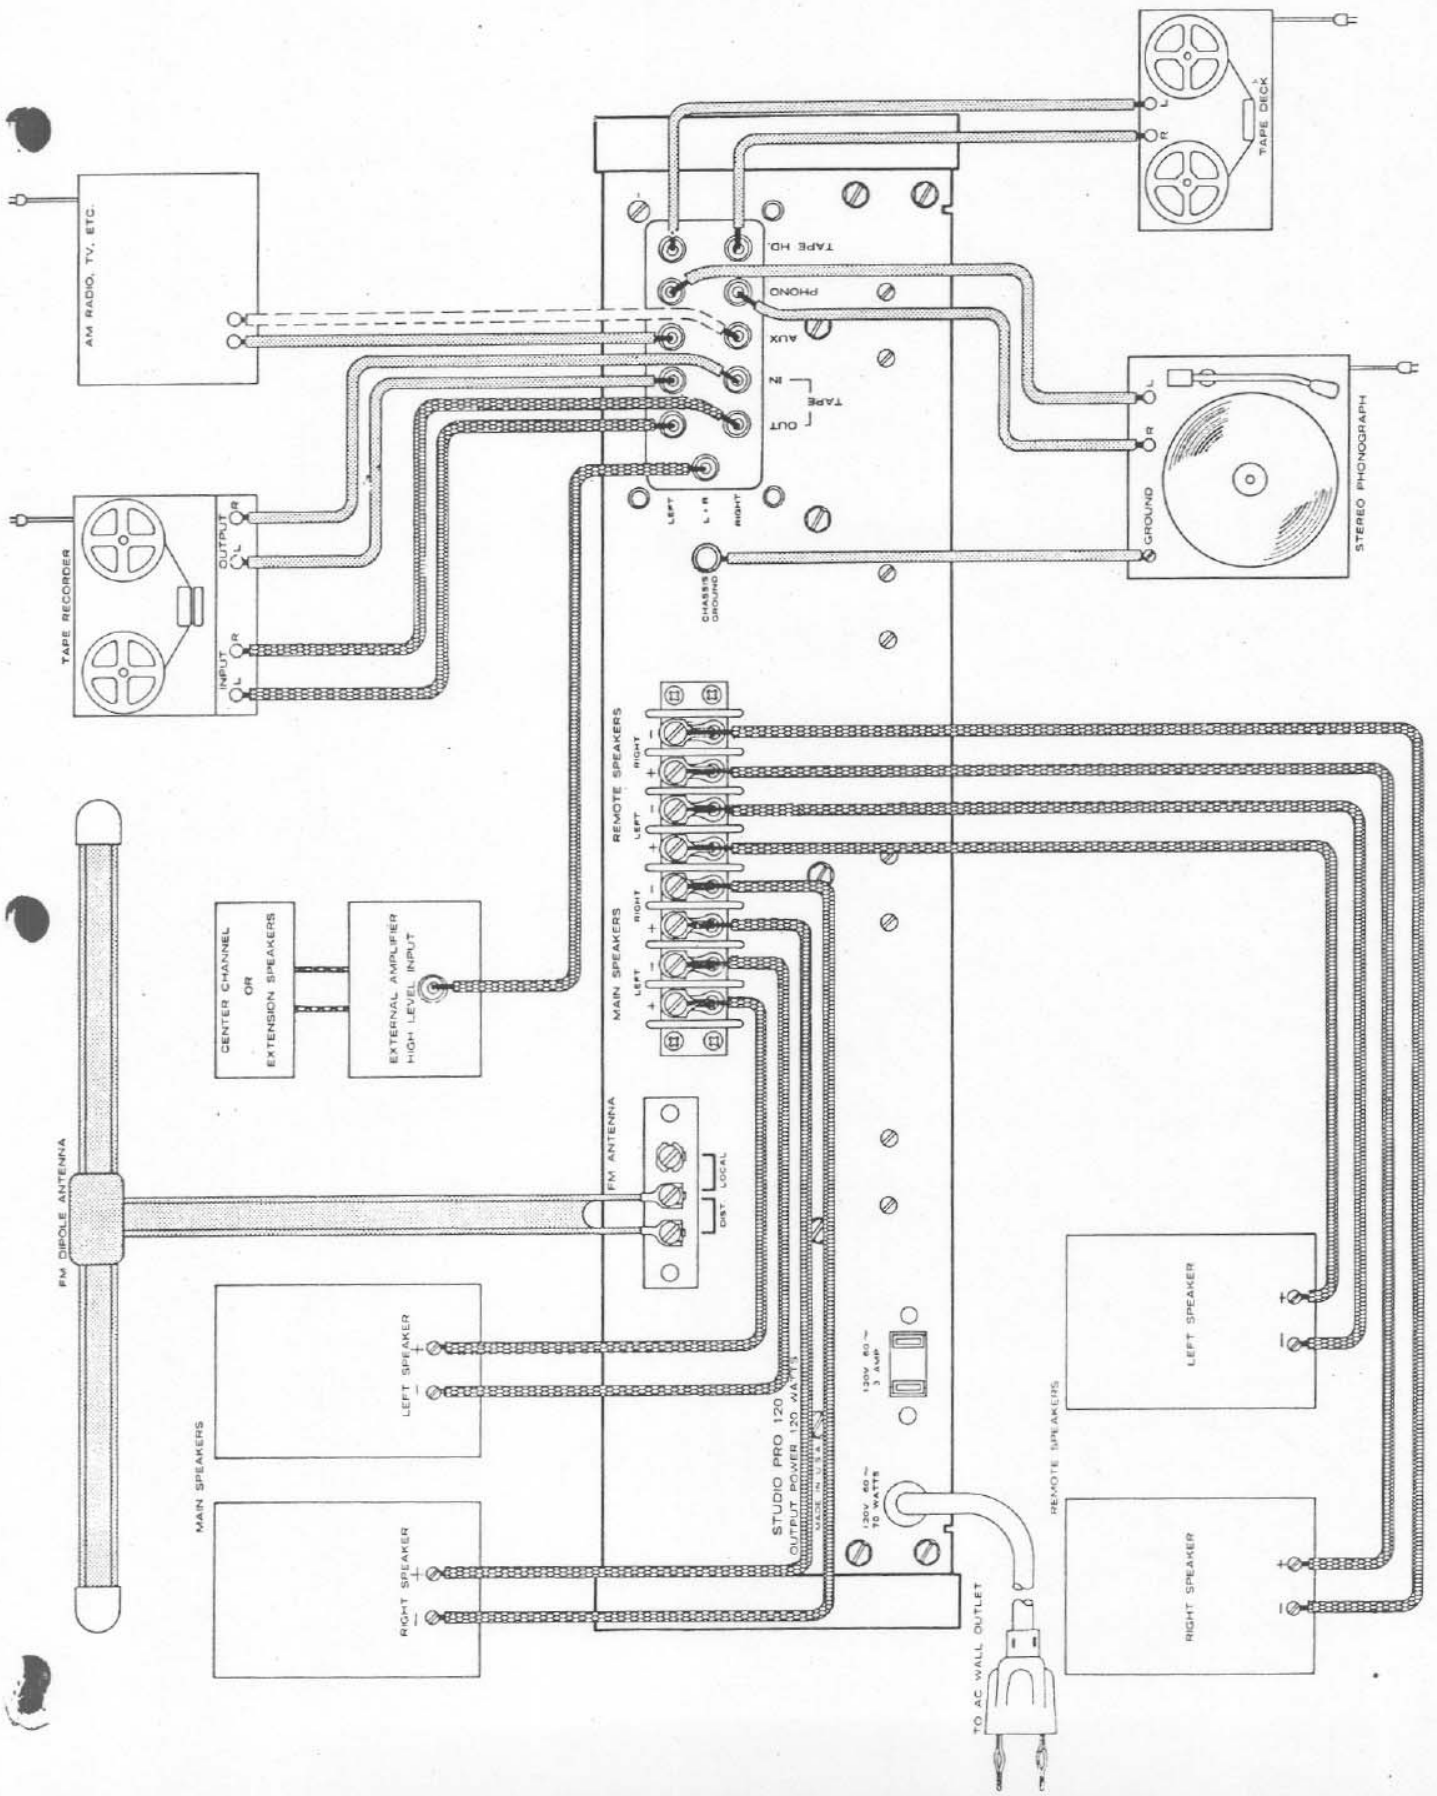

FIG. 1- REAR PANEL DIAGRAM
Realizing that you are eager to hear your new Studio Pro 120 in operation, we have prepared this opening section to allow you to start utilizing your equipment as soon as possible. We do suggest that you spend the few minutes necessary to read this opening section of this manual quite thoroughly. A few extra minutes spent now in installing your receiver correctly will avoid any needless disappointment later on and will assure you of years of trouble-free listening pleasure. To simplify the hook-up, we have provided a Rear Panel Diagram (Figure 1) which shows all the connections necessary to get your system in operation in the least possible time. After completing the installation as outlined in this section, you may proceed directly to the **Operating Guide**. We do recommend, however, that you read the entire manual at your earliest convenience to ensure that you derive the maximum possible performance flexibility and enjoyment from your receiver.
One of the terminals on your left main speaker may be coded COM, GND, C, G, or color coded with a black dot. Connect this terminal to the common (-) terminal of your receiver's **left main speaker** terminals as shown in Figure 1. The other terminal on the speaker may be marked with the speaker's rated impedance (4, 8, or 16 ohms), a +, or a red dot. Connect this terminal to the positive (+) terminal of the **left main speaker** terminals. Connect the right main speaker to your receiver's **right main speaker** terminals in the same manner. Compare both speaker connections with the illustration. It is essential that they be connected this way for proper phasing to avoid cancelling of the bass tones. For further details on connecting additional speakers to your receiver, refer to the **Speakers** section of this manual.
5. RECORD PLAYER. To connect a record changer or turntable to your Studio Pro 120, install it within 10 feet of your receiver to avoid high frequency cable capacitance losses, using Figure 1 as a guide to the proper connections. However, do not install it so close to your receiver that the cartridge is within 8 inches of the power transformer of your unit, to avoid induced hum pickup with some of the more lightly shielded cartridges. If your record player has a separate ground wire, connect it to the **chassis ground** binding post on the rear of your receiver. Consult your stereo record player's instruction manual to determine which of the player's shielded cables is for the left channel and which is for the right channel. Connect the cables to the appropriate stereo **phono** input jacks on your receiver as shown. Connect a mono-only changer cable to the left channel **phono** input. Connect your record player's power cord to a